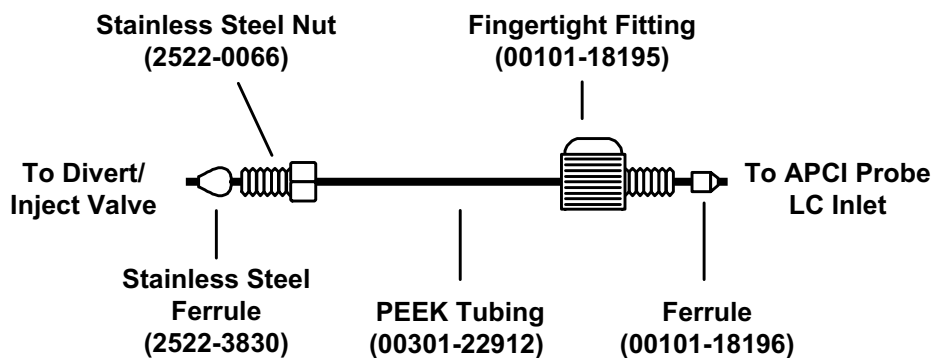

Figure 7-4. Sample transfer line, installed between the divert/inject valve and the APCI probe
- a. Gather the necessary fittings for installing a sample transfer line. See Figure 7-4.